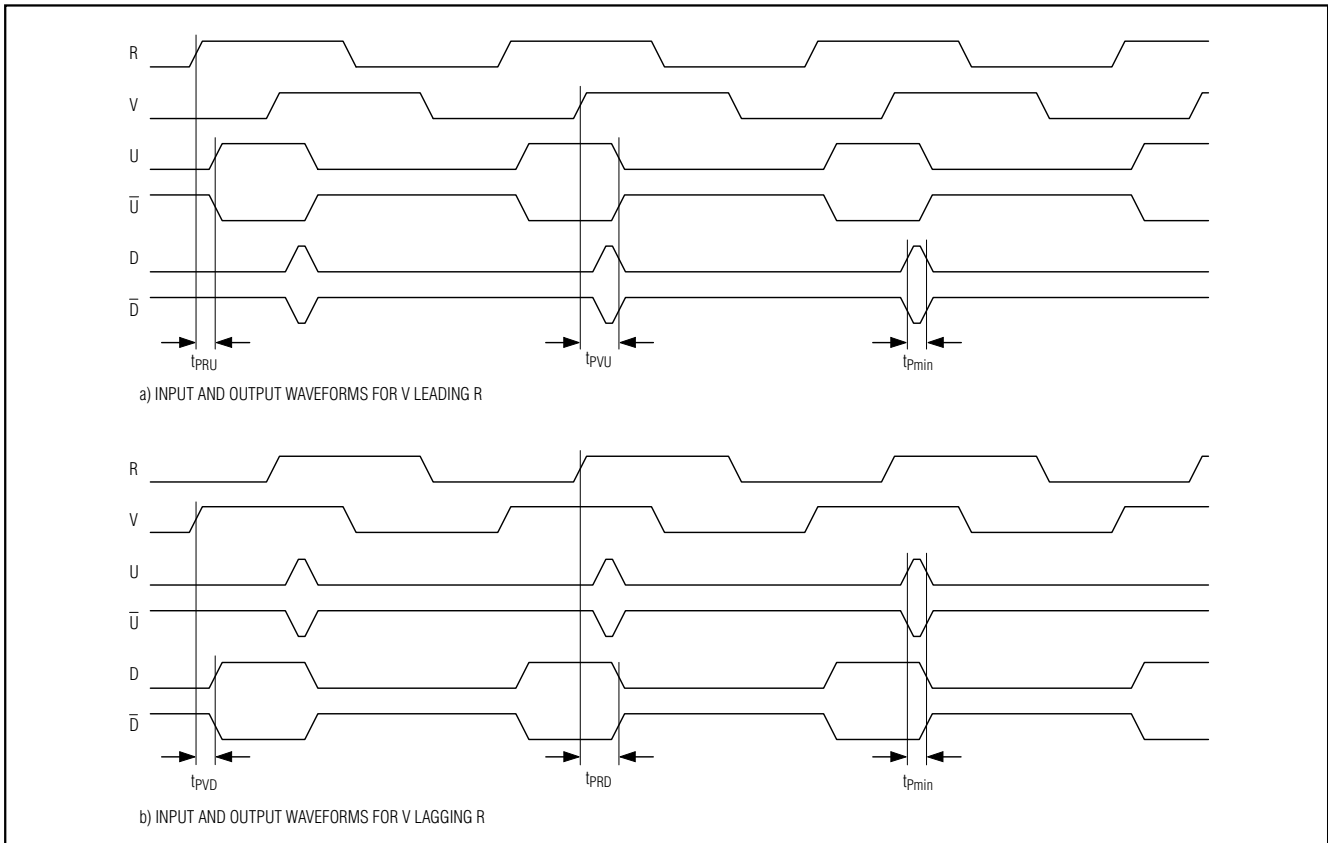
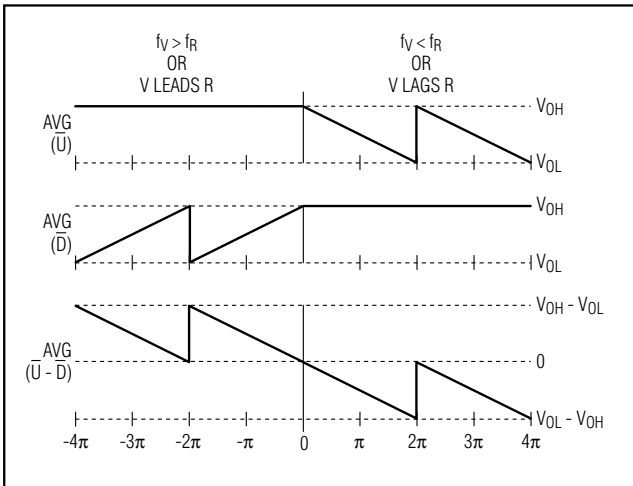

Figure 1. Typical Waveforms when  $f_R = f_V$
Figure 3. Average Output Voltage vs. Phase Difference
The MAX9382/MAX9383 are intended for use in high-bandwidth PLL applications. These devices compare a single-ended VCO input (V) to a single-ended reference input (R) to determine the phase or frequency relationship between V and R. The device differential outputs U,  $\bar{U}$  and D,  $\bar{D}$  provide pulse trains with duty cycle proportional to the phase or frequency difference between R and V. These outputs are the up and down signals required to control the system VCO. Figure 1 shows typical waveforms when V leads R and V lags R. Subtracting and integrating these two outputs provide the necessary VCO control signal. Figure 3 shows the device transfer function obtained. The detector can